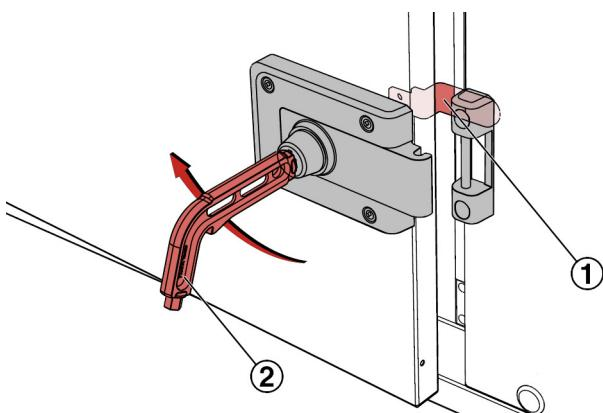

Fig. 52: Releasing the safety catch
4. ▶ Turn the TROX special key or operating lever (Fig. 52 /2) 90° clockwise.
- ⇒ This releases the safety catch (Fig. 52 /1); the inspection access door can now be completely opened.